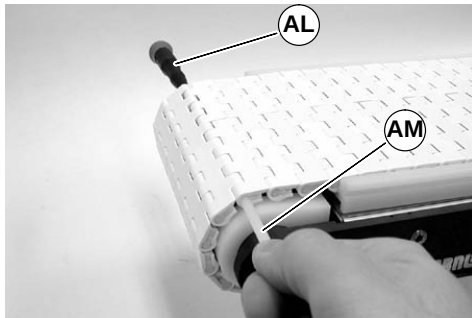

Figure 18
3. Insert screwdriver (AL of figure 18) into one side of belt, pushing rod (AM) out. Remove rod and separate belt.